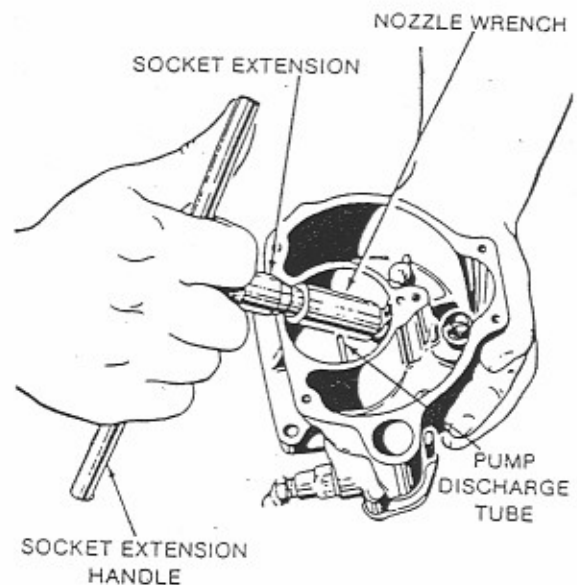

FIGURE 5
- 20) Remove idle tube (48) and drain plug (49).
- 21) Remove nozzle (50), safety washer (51), and nozzle gasket (52). See Figure 5.
- 22) Remove pump discharge check valve assembly (53), safety washer (54), and gasket (55). **NOTE:** Do not disassemble the pump discharge valve (53).
- 23) Remove pump inlet retainer screws (56), safety washers (57), retainer flange (58), strainer housing (59), gasket (60), screen (61), and inlet check valve assembly (62). Pump discharge tube (Figure 5) seldom needs service or removal. If it is damaged or loose pull it carefully out of its casting counter bore and discard.